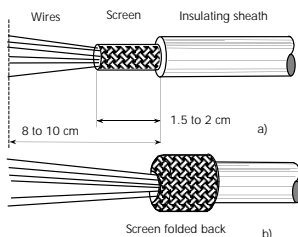

Figure 3-19 Communications cable stripping for screen grounding
- Strip the screened cable as shown in Figure 3-19,a.
- Fold back the screen on to the insulating sheath (Figure 3-19,b).
- Insert the cable into the guide so that the screen is located under the metal guide (see Figure 3-19).